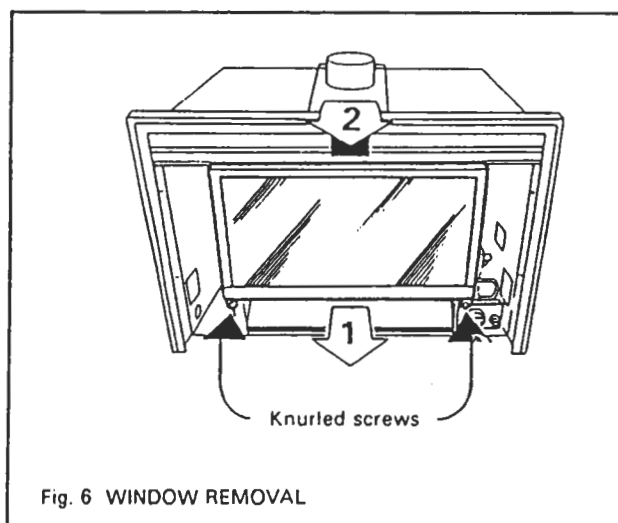

Fig. 6 WINDOW REMOVAL
2.1.3. Remove Window and Logs (see Fig. 6)